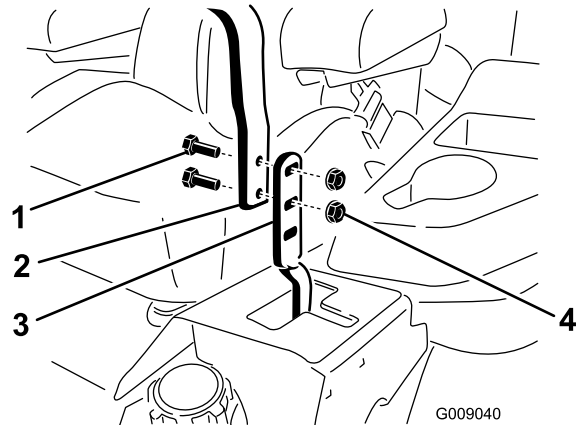

Figure 62
3. Loosen the bolts and flange nuts installed in the levers (Figure 62).